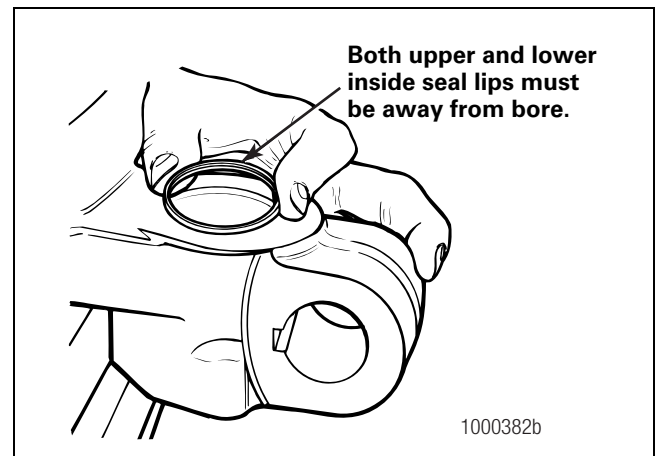

Figure 6.8
2. Place the seal into the bottom of the top knuckle bore. The lip of the seal must be AWAY from the bore. Figure 6.8.
5. Place the seal into the top of the bottom knuckle bore. The lip of the seal must be AWAY from the bore. Figure 6.8.